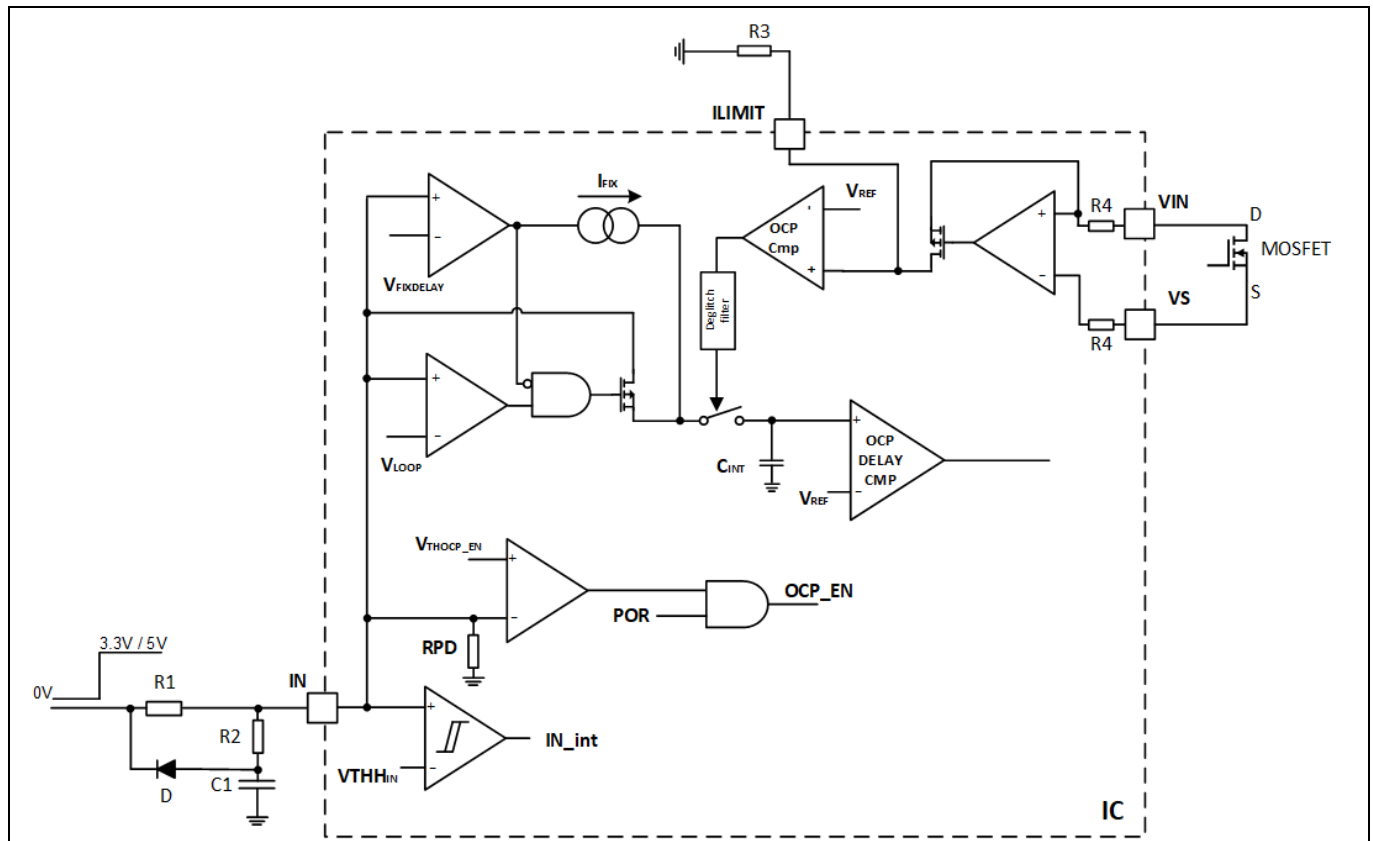

Figure 3 OCP setup
R_{PD} = IN pin pull-down resistor as shown in Figure 3
Where V_{REF} is 1.2 V and C_{INT} is a 1 nF internal capacitance shown in Figure 3. Blanking times 1 and 2 can be calculated as 1.72 and 0.19 ms, respectively, to provide a total blanking time of 1.91 ms in this example.
- External R_3 as shown in Figure 3
- Number of the MOSFETs in parallel (N)
OCP is not triggered if the duration of OCP is shorter than the delay time. Therefore, any current spike that lasts less than the delay time does not trigger the OCP function. The delay time can be set with the external component R1 as shown in Figure 3 and its driver voltage with the following equation: